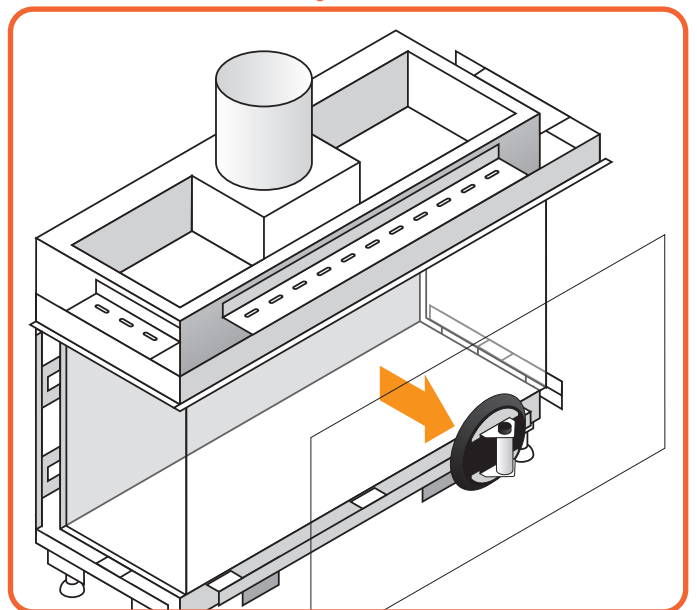

Figure 9.7 | Remove Windows
- Lift the glass out of the lower glass rail and tilt it out through the opening, as seen in Figure 9.7.
The pilot flame must be visually checked. The pilot flame must always be present when the appliance is in operation and should appear as shown in **Figure 9.7**.